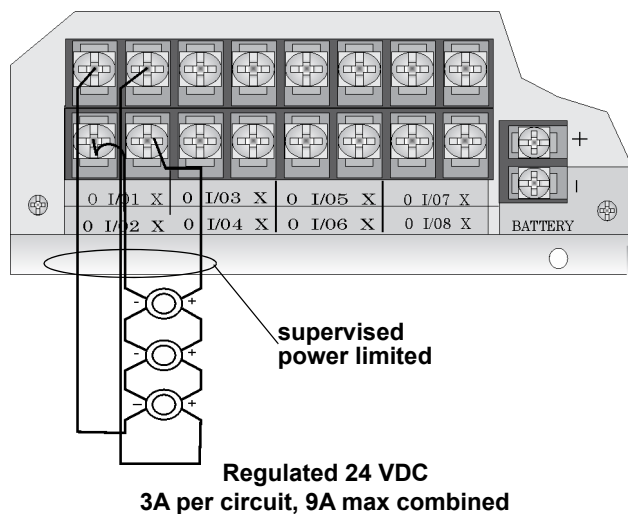

Figure 4-33 Class A Notification Appliance Circuit Configuration
1. Wire the Class A notification appliances as shown in Figure 4-33.
Note: In programming any point that uses multiple Flexput circuits, the lowest Flexput circuit number is used to refer to the circuit pair. For example, Figure 4-33 uses both Flexput circuit 1 and 2, so in programming it would be referred to as point 1.